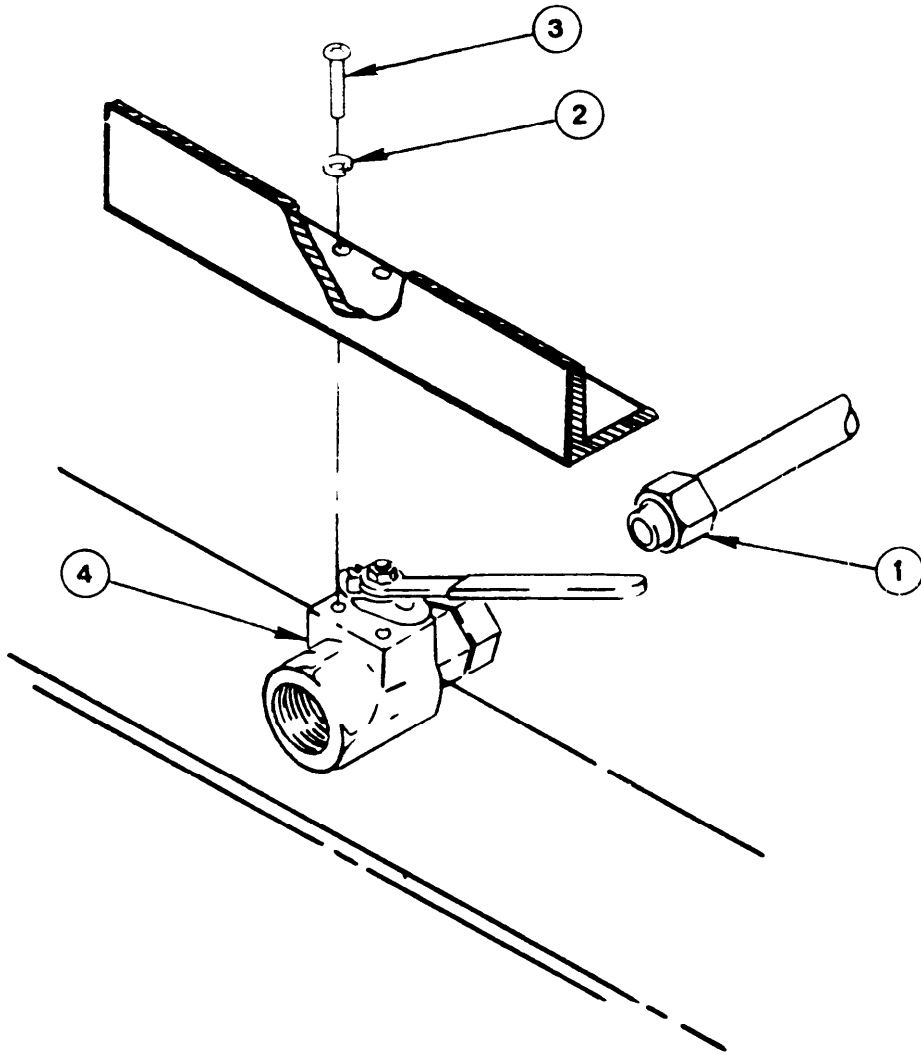

Figure 2-97. Drain Valve (USMC)
- (3) (USMC) (Figure 2-97) Install valve (4) to ROWPU frame with two screws (3) and two lockwashers (2).
- (4) Connect coupling nut (1) to valve (4).
- (5) Perform operational check and check all fittings for leaks.